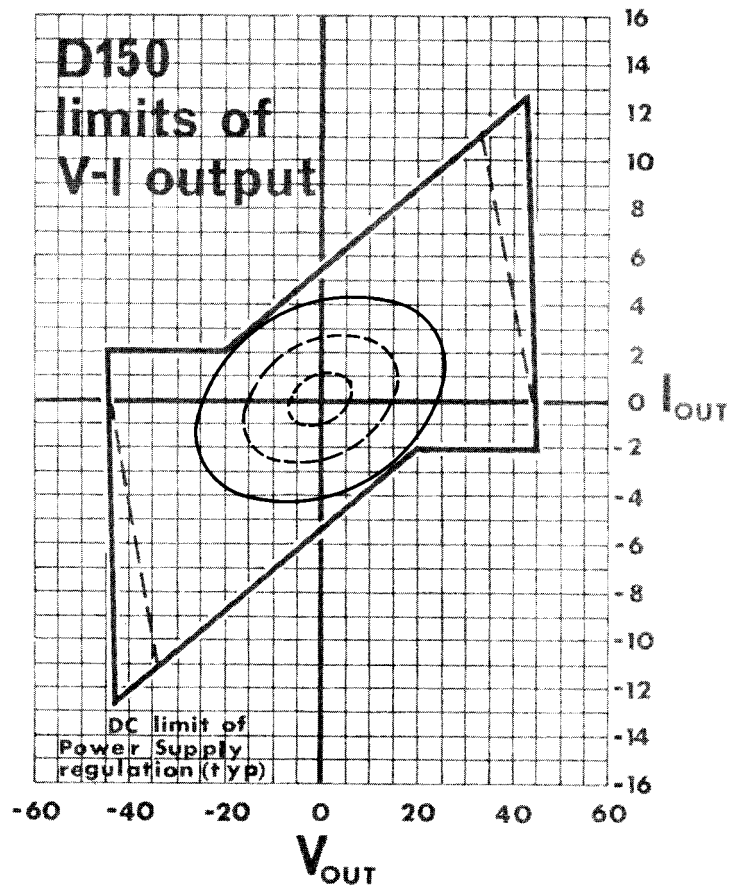

FIGURE 3-3.
The area in which the amplifier will drive the load without being V-I limited is depicted by the cross-hatched areas of Figure 3-3.
If a load initiates protection in the amplifier, it can be detected generally by watching the transfer characteristics of the amplifier on an oscilloscope or by plotting the load's V-I behavior, if known, on to Figure 3.3. In applications where the load is a loudspeaker, amplifier protection will be evidenced by distortion in the speaker. The audible effect ranges from something resembling cross-over notch distortion to a snapping sound, depending on the overall load characteristics. Speaker systems which are truly 8 ohms or greater will not initiate the protection system.
3. Never drive a transformer-coupled device or any other device which appears as a low frequency short (less than 3 ohm) without a series isolating capacitor. Such operations may damage the device and/or needlessly activate the V-I limiting (see Figure 3-3).